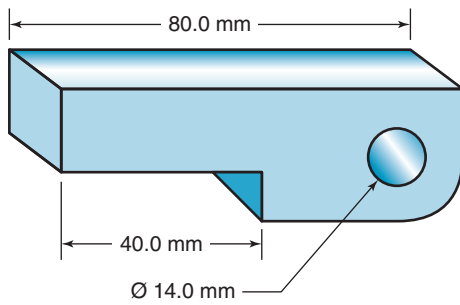

Figure 2-4 Convert this metric print to imperial (inch) units.
- From Fig. 2-4, convert the metric print to imperial units.